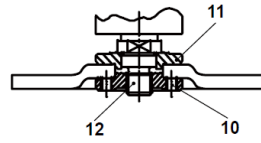

Fig. 16
- Thick wheels (> 4 mm) with curved centre: place the locking flange (10) with protruding side to the wheel (Fig. 16).